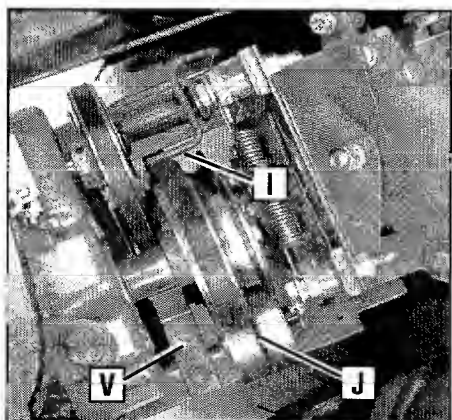
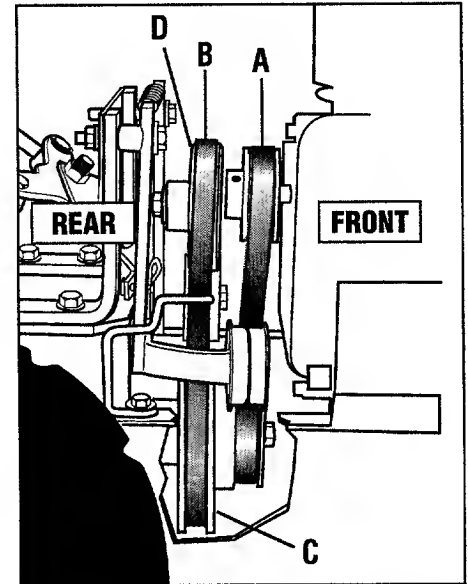
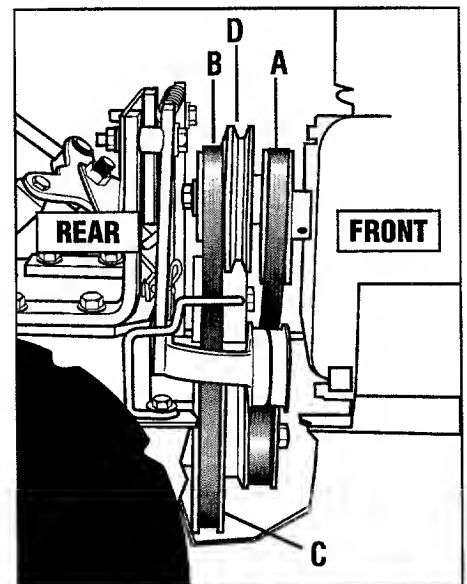

Figure 5-12: Top view of belts and pulleys.
Figure 5-16: Belt drive system – Pony model.
Figure 5-17: Belt drive system – Econo-Horse model.
8. Replace the forward drive belt in the grooves of the engine drive pulley and the transmission (lower) pulley. Be sure the belt is to the inside of the wire formed belt guide (I, Figure 5-12) and to the inside of the forward drive idler pulley (J).
2. Remove the reverse drive belt (A, Figures 5-16 or 5-17) by following the "Removing the Reverse Drive Belt" instructions in this section.
3. On Pony models, move the forward drive belt (B, Figure 5-16) completely off the engine forward drive pulley (D) by moving it to the rear of the pulley. On the Econo-Horse model, move the forward drive belt (B, Figure 5-17) into the low speed groove (rear groove) of the engine forward drive pulley.
4. Slip the forward drive belt completely off the transmission drive pulley (C, Figures 5-16 or 5-17) by moving it to the front of the pulley.
2. Slip the forward drive belt down between the rear of the engine forward drive pulley (D, Figures 5-16 or 5-17) and feed the bottom half in between the engine and transmission pulleys (see Figure 5-18). Be sure that the belt is to the inside of the forward idler pulley and forward belt guide (see J and I, Figure 5-12).
3. Slip the forward drive belt down and over the front of the transmission pulley (C, Figures 5-16 or 5-17). NOTE: For additional working room, loosen the reverse belt guide (V, Figure 5-12) and twist it out of the way.
4. Put the lower half of the belt into the rear groove of the transmission pulley (C, Figures 5-16 or 5-17).
5. Put the upper half of the belt into the groove of the engine forward drive pulley (D, Figures 5-16 or 5-17).
**IMPORTANT:** Make sure that the forward drive belt is to the inside of the wire belt guide (I, Figure 5-12) and the forward idler pulley (J, Figure 5-12).
3. Place the belt to the inside of the reverse idler pulley (D, Figure 5-19) and the reverse belt guide (V, Figure 5-12). Then slip the upper end into the groove of the engine reverse pulley (A, Figure 5-19).
4. If the reverse belt guide (V, Figure 5-12) was loosened previously, center the belt guide on the belt and tighten the mounting screw securely.